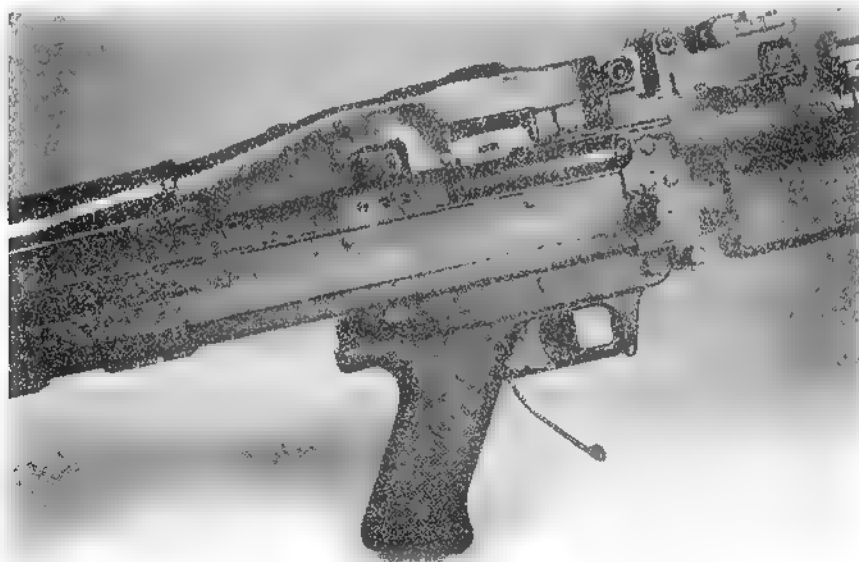

Figure 1-12. — Winter Trigger Guard.
**11001. TRIGGER GUARD.** The M60E3 has a winter trigger guard, similar to the M16A2's, to allow firing with gloves or mittens on the gunner's hands. The trigger guard on the M60E3 can be rotated down by depressing the spring detent with any round or pointed object (Figure 1-12).